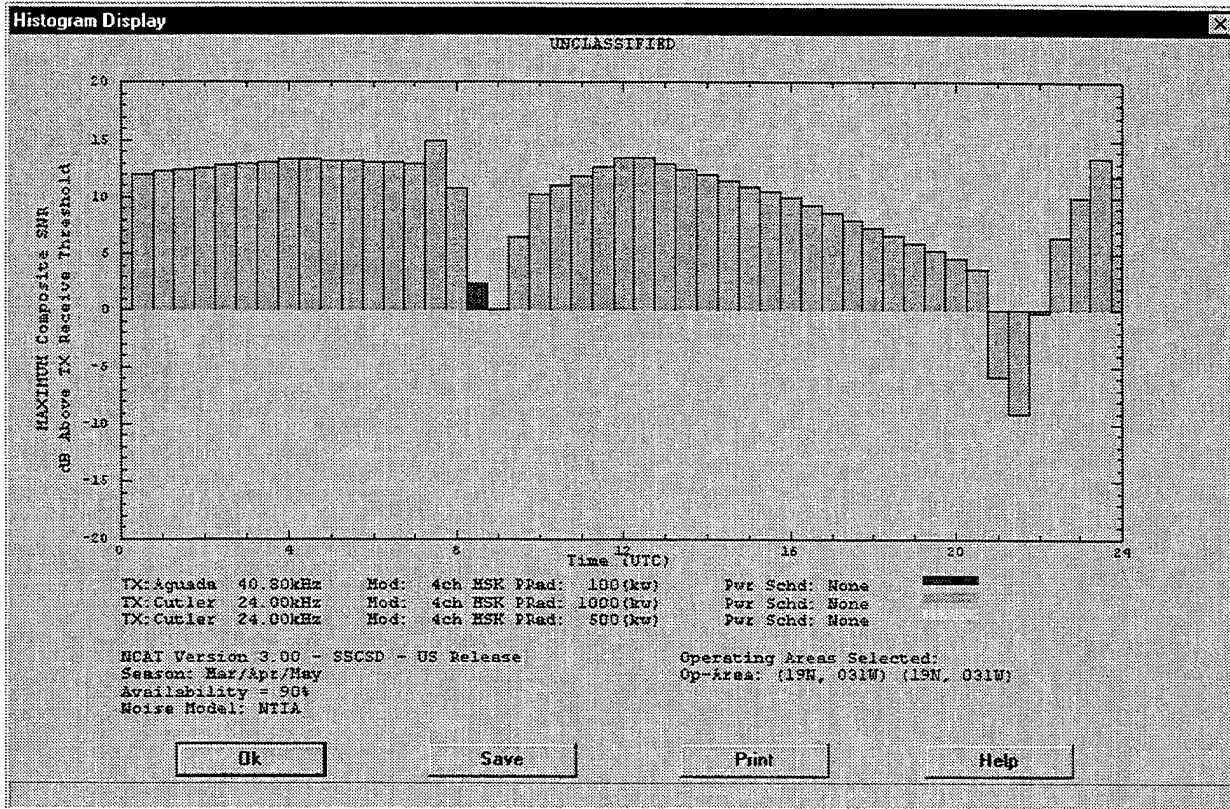

Figure 22. Example of a maximum composite SNR plot.
- A maximum composite SNR plot of the selected operating areas and transmitters selected. To perform a maximum composite plot, select Run Scenario -> Show SNR Composite (MAX)... Figure 22 shows an example of a maximum composite SNR chart.